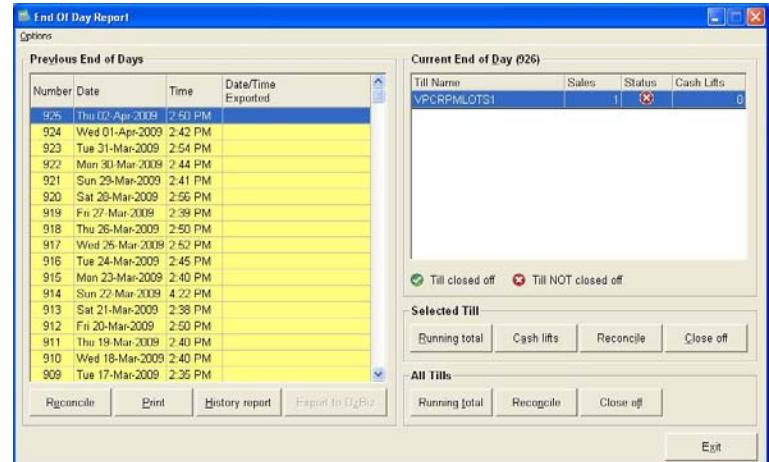

Figure 109
1. To reconcile the tills navigate from the Sales → Reports drop-down menu → End Of Day. This will open up the 'End Of Day Report' window (see Figure 109).